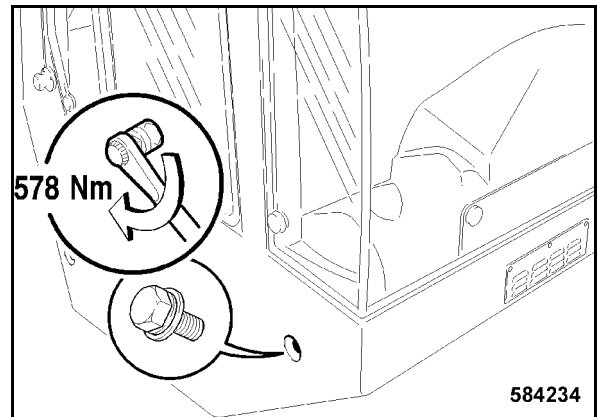

Fig. 217
- Tighten the front lateral fastening screw on the right hand side with 578 Nm (Fig. 217).